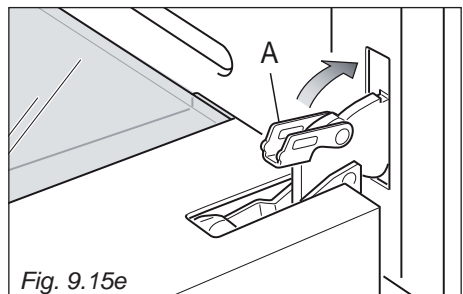

Fig. 9.15e
- Unlock the oven door by opening it completely and closing the lever "A" on the left and right hinges (fig. 9.15e).